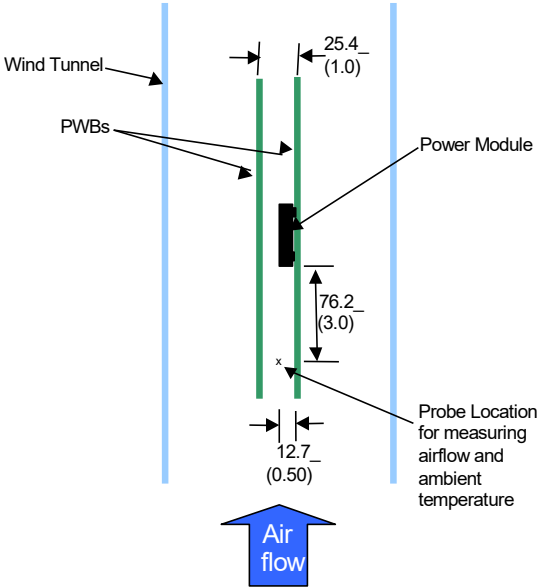
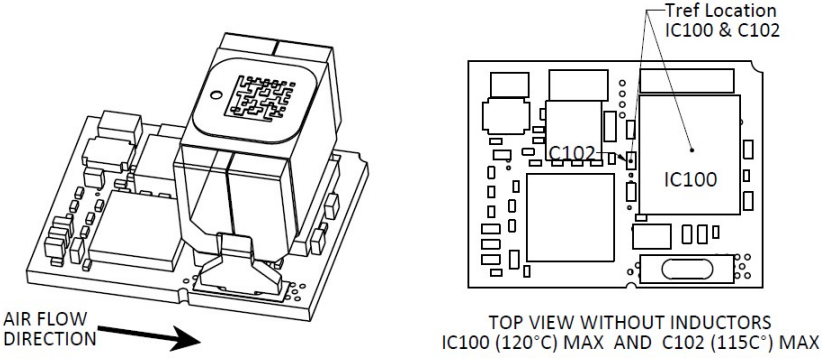

Figure 28. Thermal Test Setup.
Figure 29. Preferred airflow direction and the location of the thermal reference points
Power modules operate in a variety of thermal environments; however, sufficient cooling should always be provided to help ensure reliable operation. Considerations include ambient temperature, airflow, module power dissipation, and the need for increased reliability. A reduction in the operating temperature of the module will result in an increase in reliability. The thermal data presented here is based on physical measurements taken in a wind tunnel. The test set-up is shown in Figure 28. The preferred airflow direction for cooling the module and the thermal reference points, Tref used in the specifications are shown in Figure 29. For reliable operation the temperatures at these points should not exceed 120°C (IC100) and 115°C (C102). The output power of the module should not exceed the rated power of the module ($V_{o,set} \times I_{o,max}$). Please refer to the Application Note “Thermal Characterization Process for Open-Frame Board-Mounted Power Modules” for a detailed discussion of thermal aspects including maximum device temperatures. Increased airflow over the module enhances the heat transfer via convection. The thermal derating of figures 2, 8, 14 and 20 show the maximum output current that can be delivered by each module in the indicated orientation without exceeding the maximum Tref temperature versus local ambient temperature (TA) for several air flow conditions. The thermal derating curves were generated using a 12 layer evaluation board with 3oz copper in inner layers and 2 oz in outer layers.